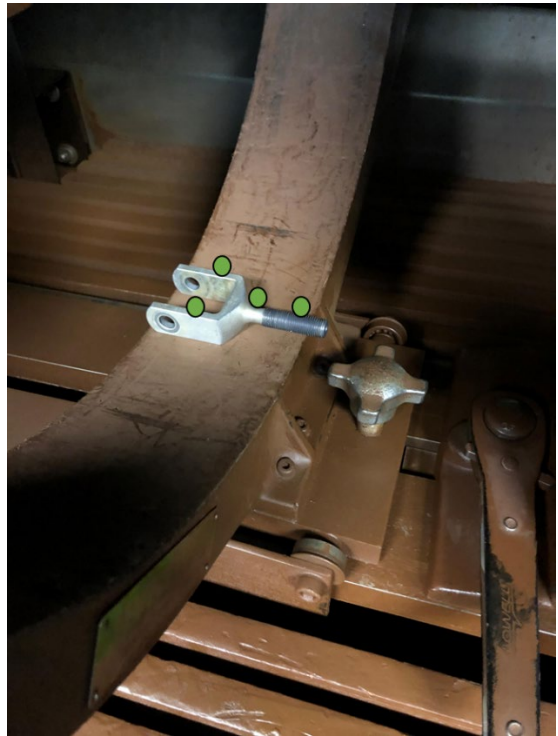

Figure 1 – Magnetic Particle Inspection (MPI)
- c. Carry out a magnetic particle inspection of the clevises as shown in Figure 1 and Figure 2. Perform a demagnetization between Shot #1 and Shot #2, and again upon completion of the inspection. Refer to BHT-ALL-SPM, Chapter 6, for additional information about the magnetic particle inspection procedures.